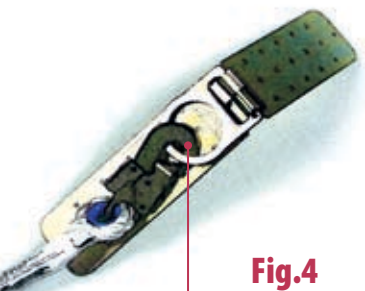

Fig.4
5. Lifeline should be installed through the rope grab with the arrow indicator pointing toward the anchor-point end of the lifeline shown at Fig.4. Follow the instructions for the rope grab adjustment at Section 3 before use.